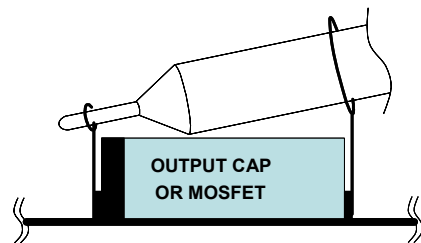
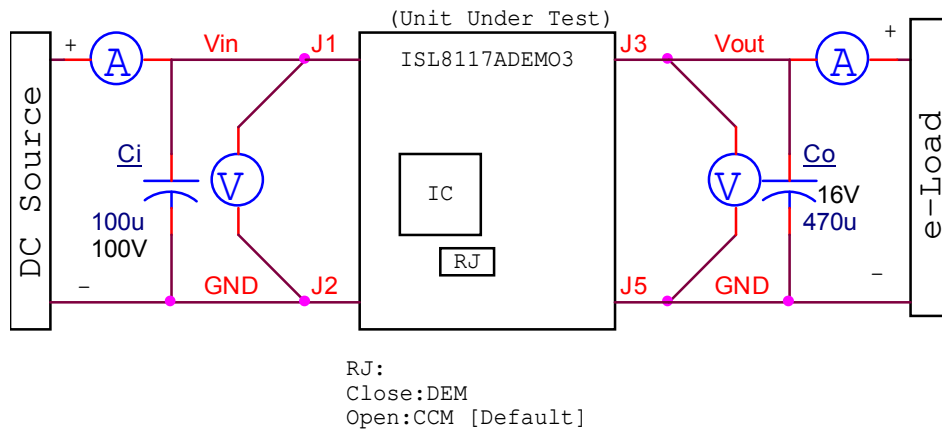

Figure 2. Proper Probe Setup to Measure Output Ripple and Phase Node Ringing
Figure 3. Proper Test Setup
As shown in Figure 3 on page 7, 6V to 60V  $V_{IN}$  is supplied to J1 (+) and J2 (-). The regulated 5V output on J3 (+) and J5 (-) can supply up to 6A to the load.
- (1) Ensure that the circuit is correctly connected to the supply and electronic loads prior to applying any power. Refer to Figure 3 for proper setup.
- (2) Turn on the power supply.
- (3) Adjust the input voltage,  $V_{IN}$ , within the specified range and observe output voltage. The output voltage variation should be within 3%.
- (4) Adjust load current within the specified range and observe output voltage. The output voltage variation should be within 3%.
- (5) Use an oscilloscope to observe output voltage ripple and phase node ringing. For accurate measurement, refer to Figure 2 for proper test setup.